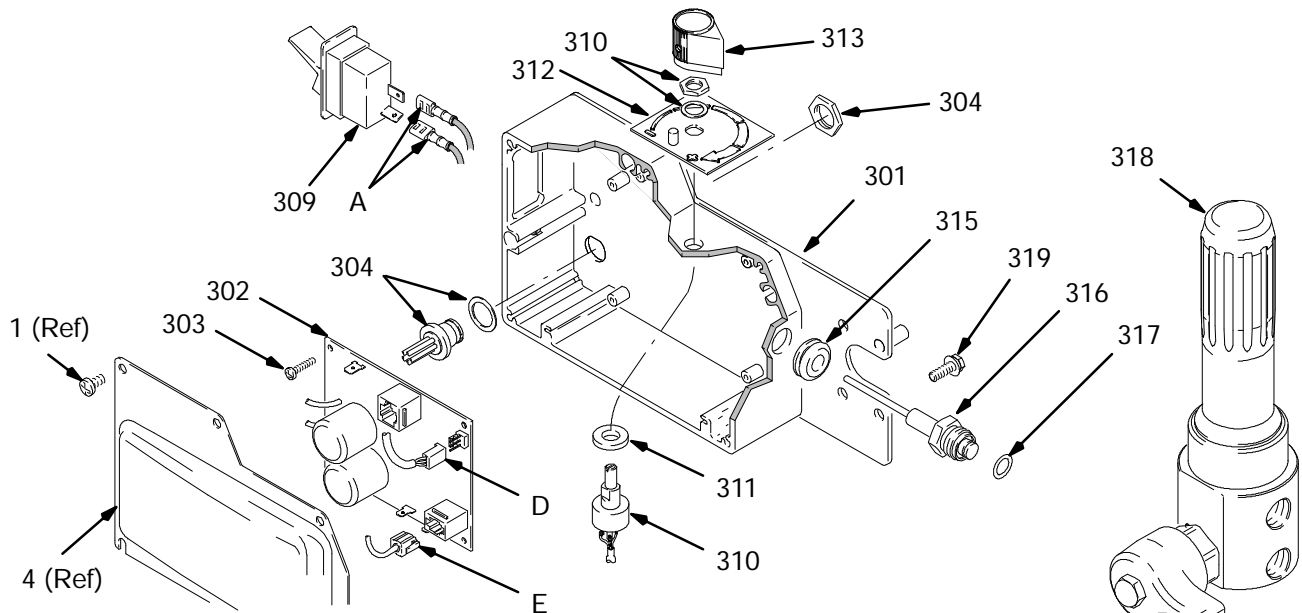

Fig. 15
2. Fig. 15. Remove five screws (307) and cover (322).
3. Disconnect two wires (A) from ON/OFF switch (309).
4. Press in on two retaining tabs on each side of ON/OFF switch (309) and remove switch.
- Fig. 15. Remove five screws (307) and cover (322).
- Disconnect at control board (302):
- D Lead (D) from potentiometer.
- D Lead (E) from transducer.
- D Two red leads (A) to ON/OFF switch (309).
- Remove four screws (303), green ground wire, and control board (302).
- Fig. 15. Install control board (302) with five screws (303).
- Connect control board (302):
- D Lead (E) to transducer.
- D Lead (D) to potentiometer.
- Install cover (322) with five screws (307).
- Disconnect lead (E) from control board (302).
- Remove three screws (319) and filter housing (318) from control plate (301). Carefully pull transducer connector through rubber grommet (315).
- Remove pressure control transducer (318z) and packing o-ring (318aa) from filter housing (318).
- Fig. 15. Install packing o-ring (317) and pressure control transducer (316) in filter housing (318). Torque to 30–35 ft-lb.
- Carefully feed transducer connector through rubber grommet (315). Install fluid filter (318) on control plate (301) with three screws (319).
- Connect lead (E) to control board (302).
- Disconnect lead (D) from control board (302).
- Loosen set screws on potentiometer knob (313) and remove knob, shaft nut, lockwasher (310) and pressure adjust potentiometer (310).
- Remove seal (311) from potentiometer (310).
- Fig. 15. Install seal (311) on potentiometer (310).
- Install potentiometer (310), shaft nut, lockwasher (310), and potentiometer knob (313).
- Turn potentiometer shaft (310) clockwise to internal stop. Assemble potentiometer knob (313) to strike pin on plate (312) and have bottom of knob clear plate by .040 to .060 in.
- Connect lead (D) to control board (302).
1. Fig. 15. Remove five screws (307) and cover (322).